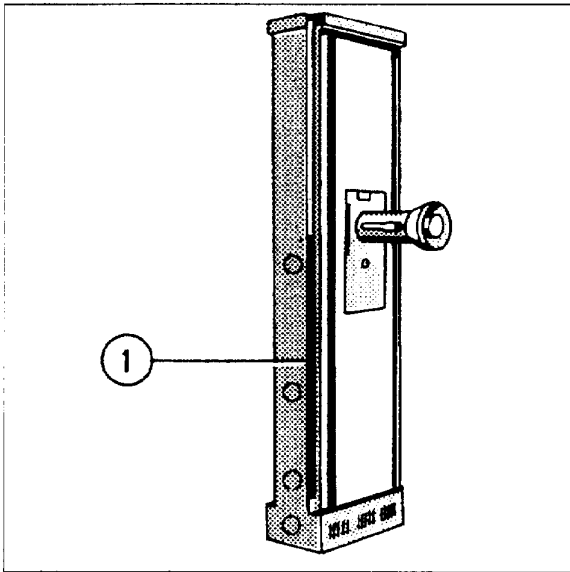
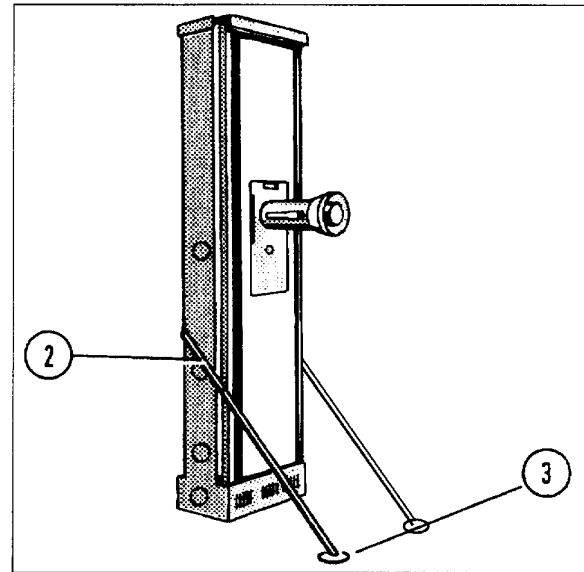

Fig. 9
Fig. 10
- Remove **both** support brackets from the park position (1/Fig.9) by removing the screws and attach them to the **left and right** of the column stand as shown in 2/Fig.10 as stabilizers.
- Place a plastic holder underneath them (3/Fig.10) to protect the floor.